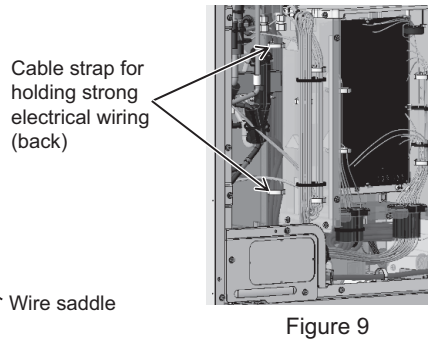

Figure 9
- (11) Loosen the two cable straps holding the strong electrical wiring outside the main control box. (See Figure 9.)